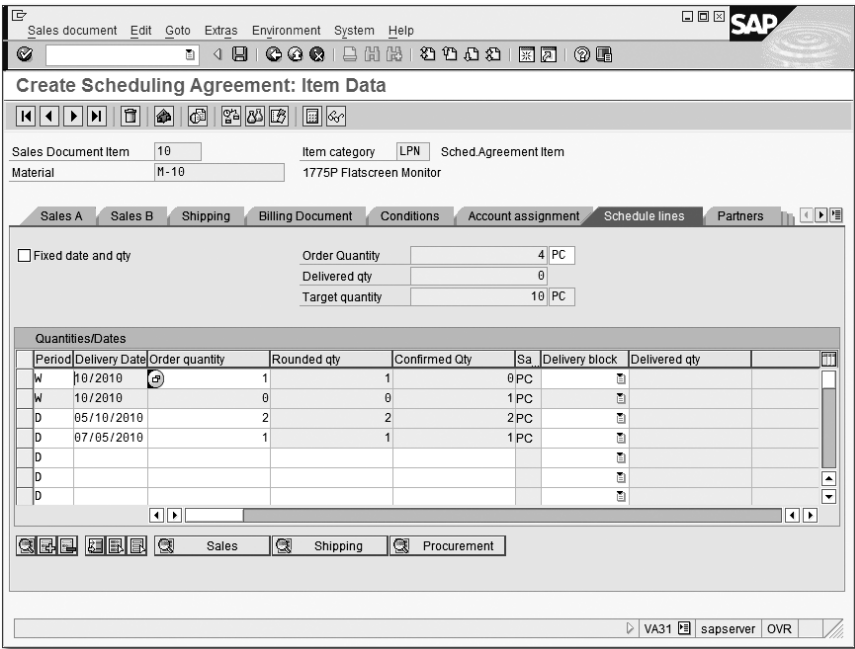

Figure 3.25 Create Scheduling Agreement — Maintain Schedule Lines
7. Enter the necessary schedule lines, and specify the delivery periods (in days, months, weeks, etc.) and the dates and expected quantities, as shown in Figure 3.25.